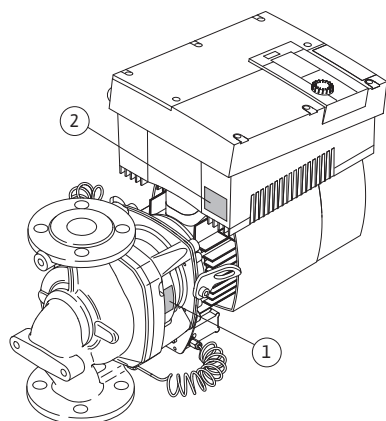

Fig. 11: Arrangement of the rating plates:
- The pump rating plate (Fig. 11, Item 1) includes the serial number (Ser.-No.../...), which is required for spare parts orders, for example.
- The electronic module rating plate (electronic module = inverter or frequency converter) (Fig. 11, Item 2) indicates the designation of the electronic module being used.